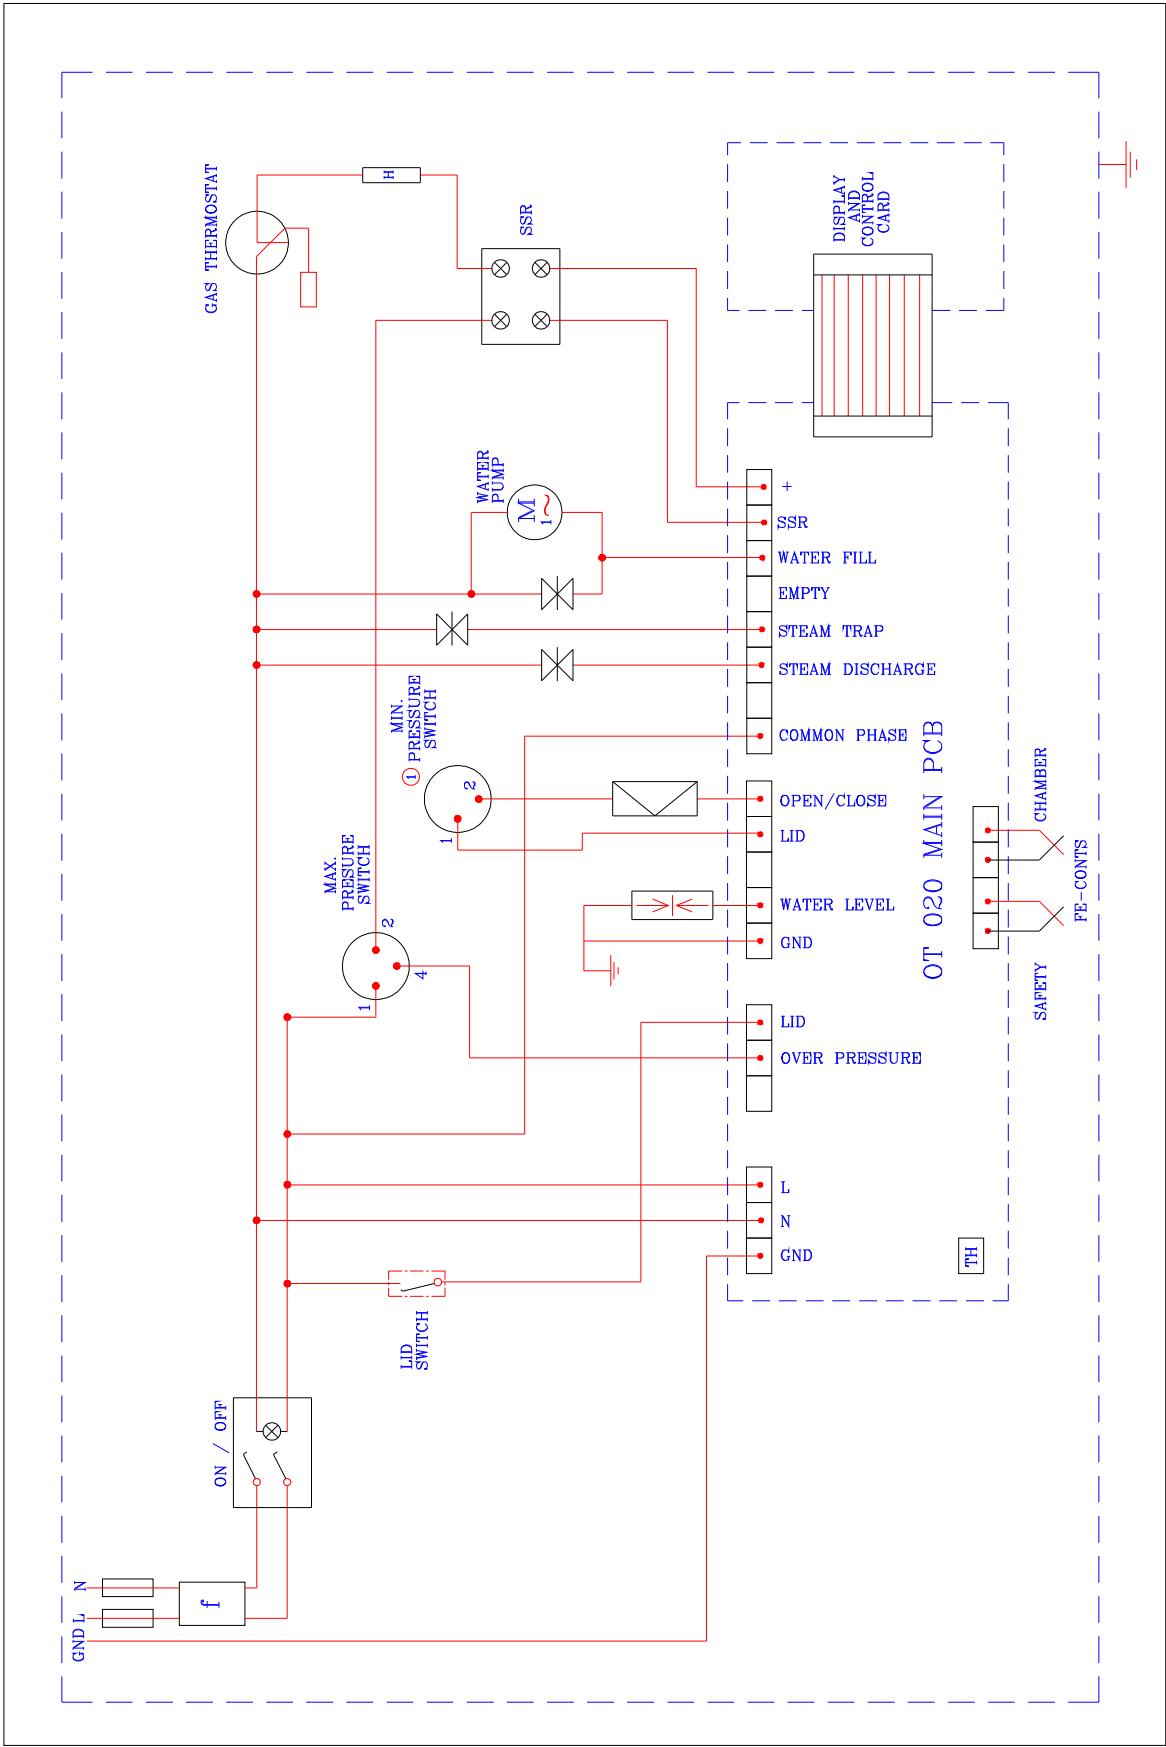
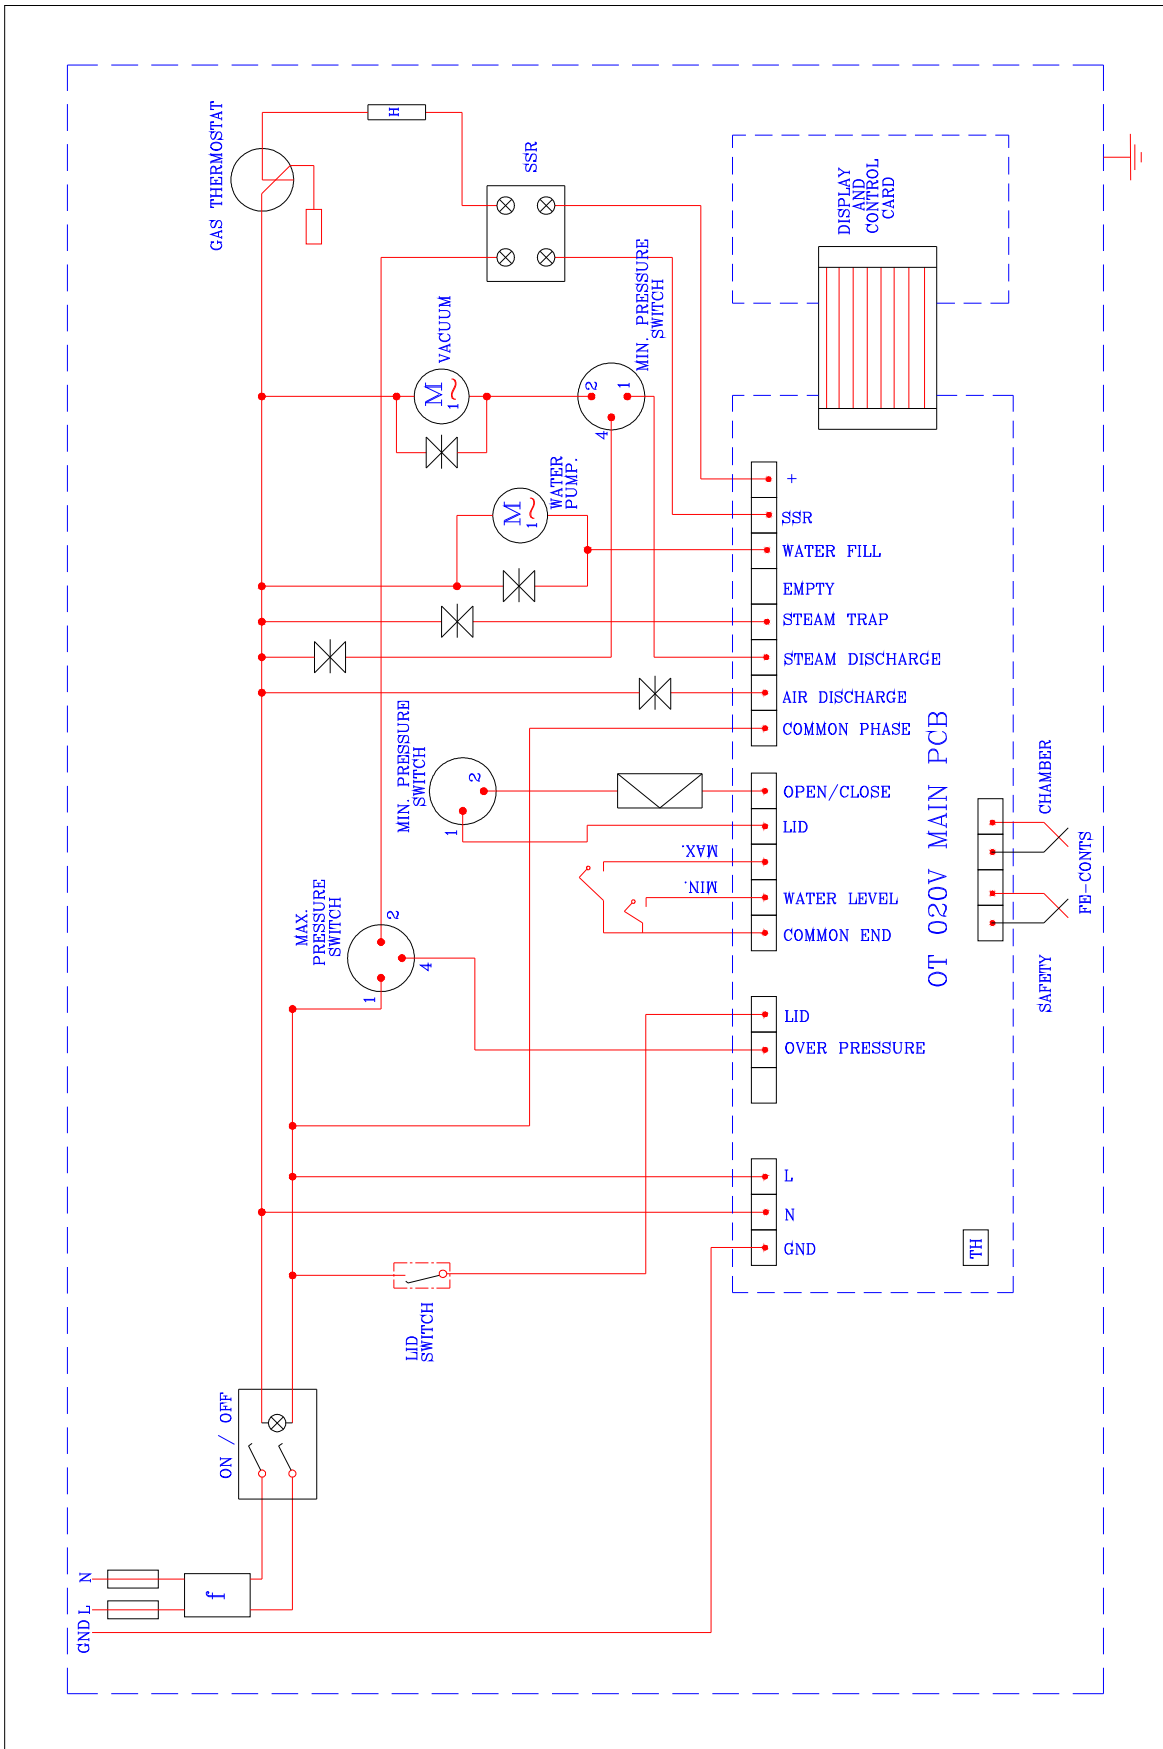

Figure 3
Figure 4
- Disconnect the temperature sensor terminals from the main PCB (7).
- Make the temperature sensor terminal connections according to the electrical circuit diagram (Figure 3 or Figure 4).
- Disconnect the water level sensor (5) main PCB (7) connection.
- Remove the water tank (6) cover.
- Make the electrical connections according to the electrical circuit diagram ( Figure 3 or Figure 4)
- Disconnect the locking switch (30) terminal connections.
- Mount the new locking switch and make the necessary electrical connections carefully according to the electrical circuit diagram (figure 3 or Figure 4).
- Make the electrical connections carefully according to the electrical circuit diagram (Figure 3 or Figure 4)
- Adjust the minimum pressure switch (33) by turning the red adjusting switch counter-clockwise or adjust the maximum pressure switch (32) by turning the red adjusting switch clockwise.